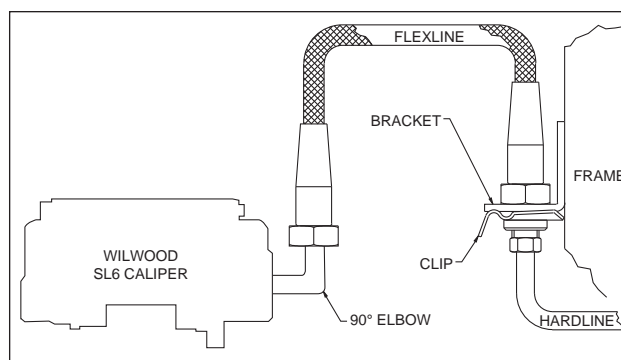

Figure 4. Brake Line Diagram
- Install Wilwood's optional stainless steel braided flexline hose kit, part number 220-8338 (**NOT included in kit**), see Figure 4. **NOTE:** OEM rubber brake hoses generally cannot be adapted to Wilwood calipers. The caliper inlet fitting is a 1/8-27 NPT. The preferred method is to use steel adapter fittings at the caliper, either straight, 45 or 90 degree and enough steel braided line to allow for full suspension travel and turning radius, lock to lock. **Carefully route lines to prevent contact with moving suspension, brake or wheel components.** Wilwood hose kits are designed for use in many different vehicle applications and it is the installer's responsibility to properly route and ensure adequate clearance and retention for brake hose components.